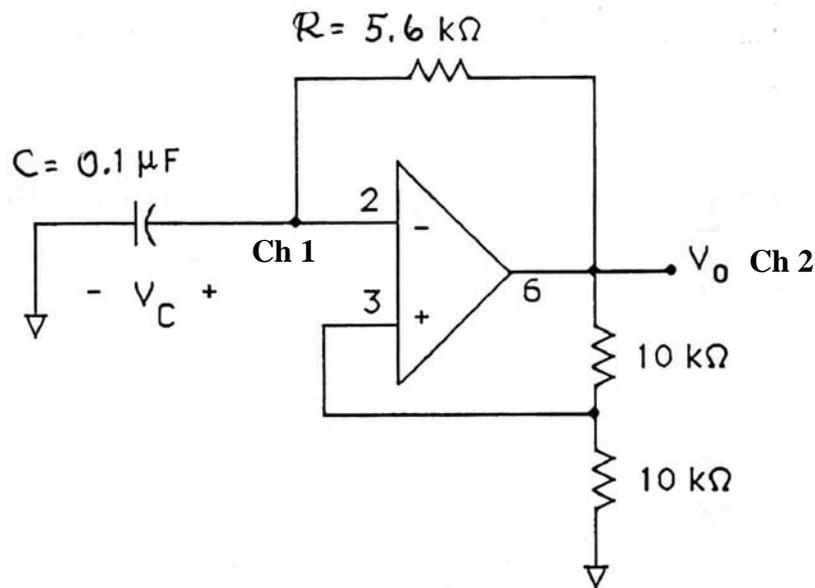

Figure 9.11: Square wave generator circuit 9.7.1.
9.7.1 Square-Wave Generator - Circuit 9.7.1 Use the already assembled circuit shown in Figure 9.11. Observe and record the output v_o . You will have to use the internal trigger on Ch 1 of the scope since this circuit has no input and is not synchronized with anything.